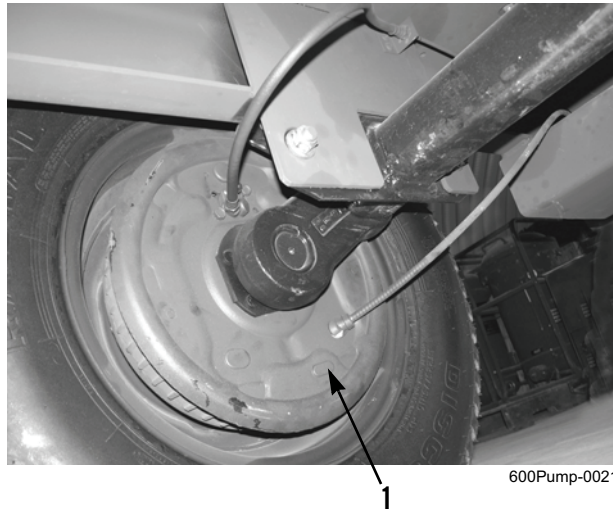

Figure 4. Adjustment Slot at Backing Plate.
14. Install protective plug (Figure 4, Item 1) over adjustment slot in backing plate.